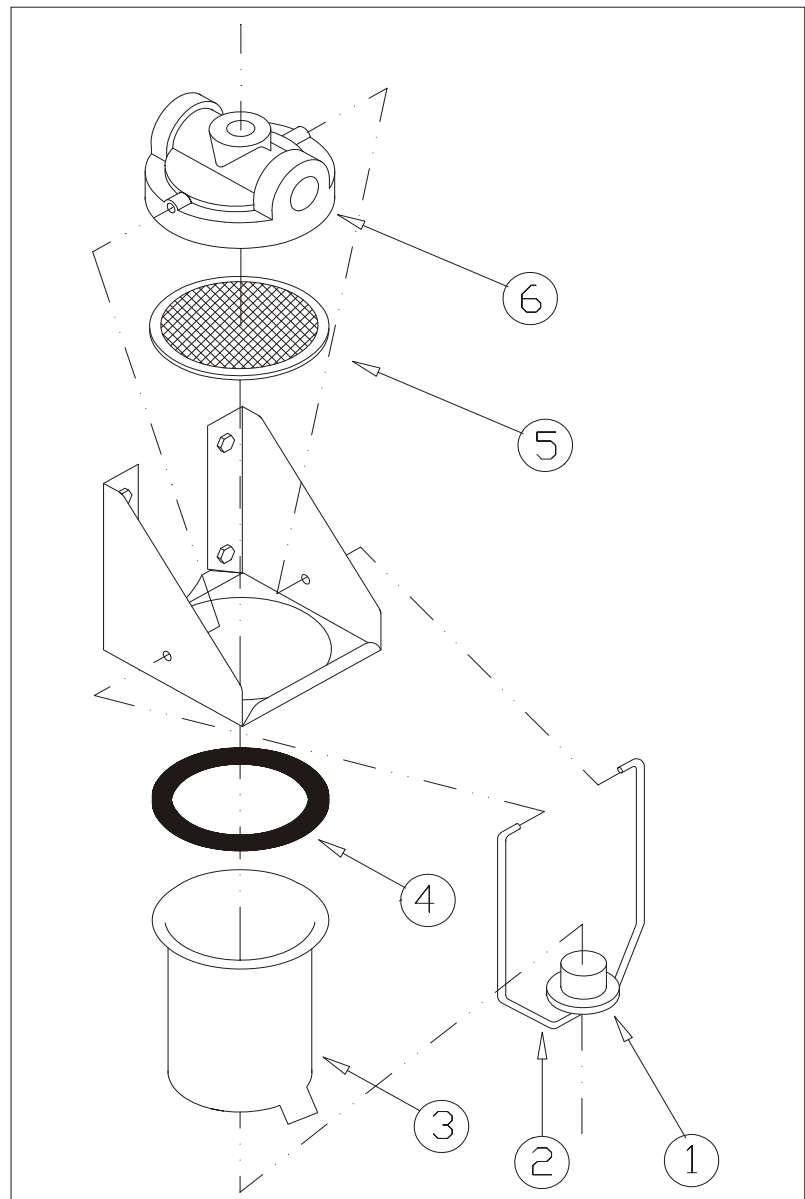

Figure 11 Gascolator Removal/Installation
- 3 Loosen the knurled nut (1, Figure 11).
- 4 Remove the mounting bracket (2).
- 5 Remove the fuel reservoir (3) and the sealing ring (4).
- 6 Remove the strainer (5) and the gascolator cover (6).